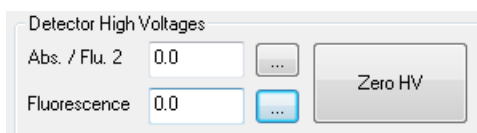

Figure 2-38: the Detector High Voltages Panel
6) Now click the '...' button next to the **Fluorescence** box on the **Detector High Voltages** panel (Figure 2-38).